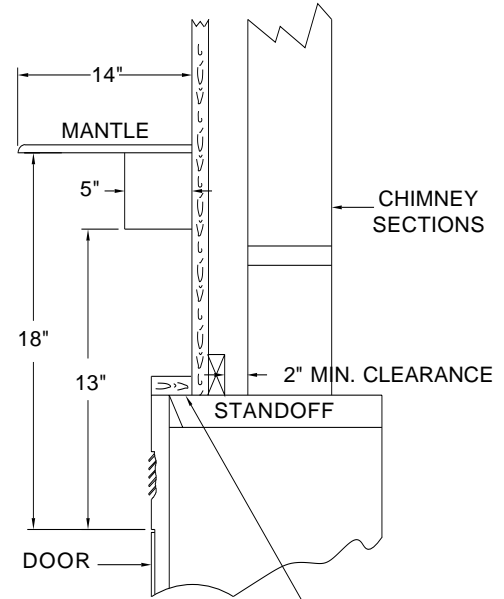

FIGURE 28
3. If a combustible mantle is to be installed do not install it closer than the minimum 457mm(18") above the fireplace opening as shown in figure 28. A non-combustible mantle may be installed at any height above the grille opening.
4. Non-combustible materials may be used to finish the lintel sides of the fireplace. When using a non-combustible material, a firestop must be installed either above or below the lintel so that hot air does not radiate behind the brick facing and cause combustibles to overheat. See figure 28.